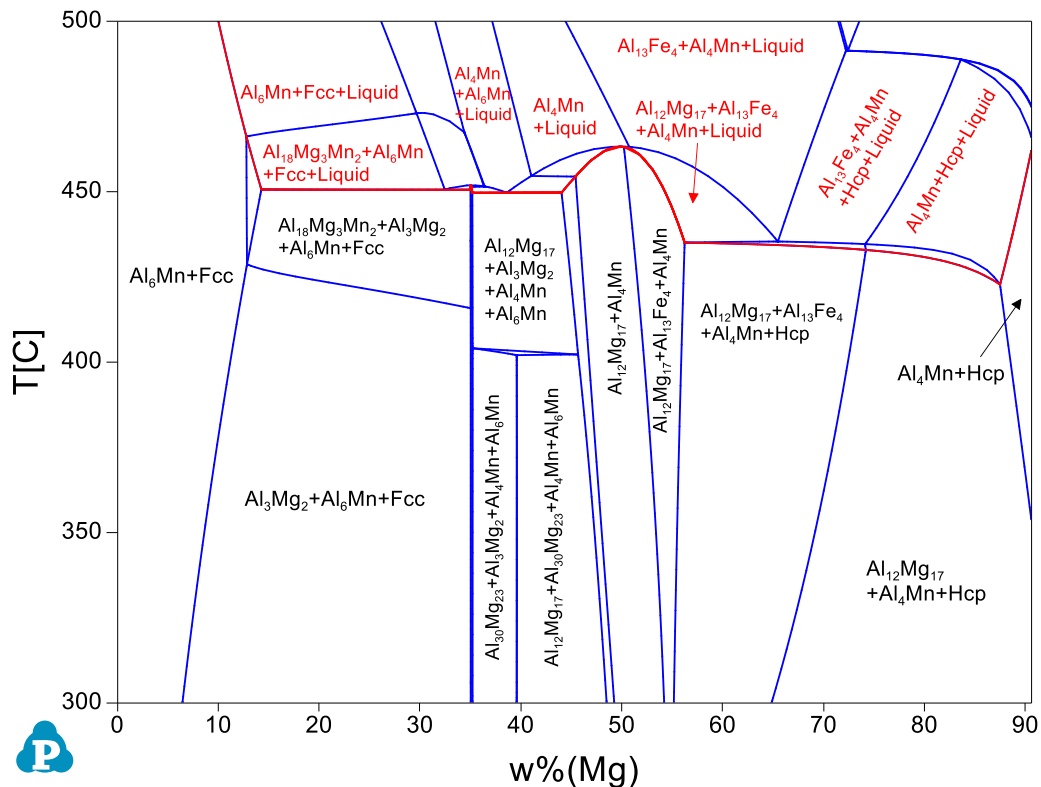

Figure 1.25.6 The vertical phase diagram from AA5454 to AZ91 with phase field labels. The phase fields including Liquid phase are labeled as red.
- Label phase field (Also described in detail in Pandat User's Guide 2.3.3); Click button  , Pandat goes into Label function, then click the mouse on the diagram, the phase field at the location of the mouse will be labeled. If the user holds the <Ctrl> key first and then click the mouse on the diagram, the program will do a point calculation at the composition and temperature where the cursor locates. After added all phase field labels and put them in proper position, the final phase diagram is shown as Figure 1.25.6.